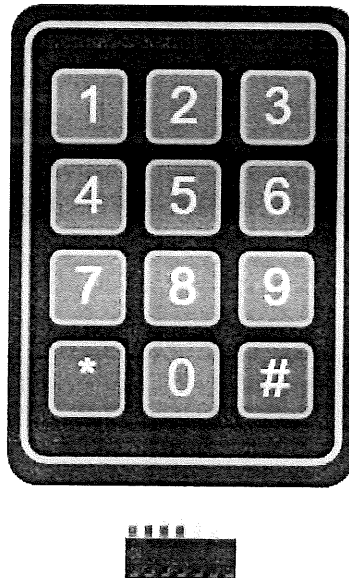

Figure 2: 4x3 Keypad
- i. Referring to the keypad in Figure 2, **produce** the wiring diagram between these devices and the Pi Pico microcontroller. Please use attachment 3 to draw the diagram. You may refer to Pi Pico pinout in the attachment section. (10 marks)